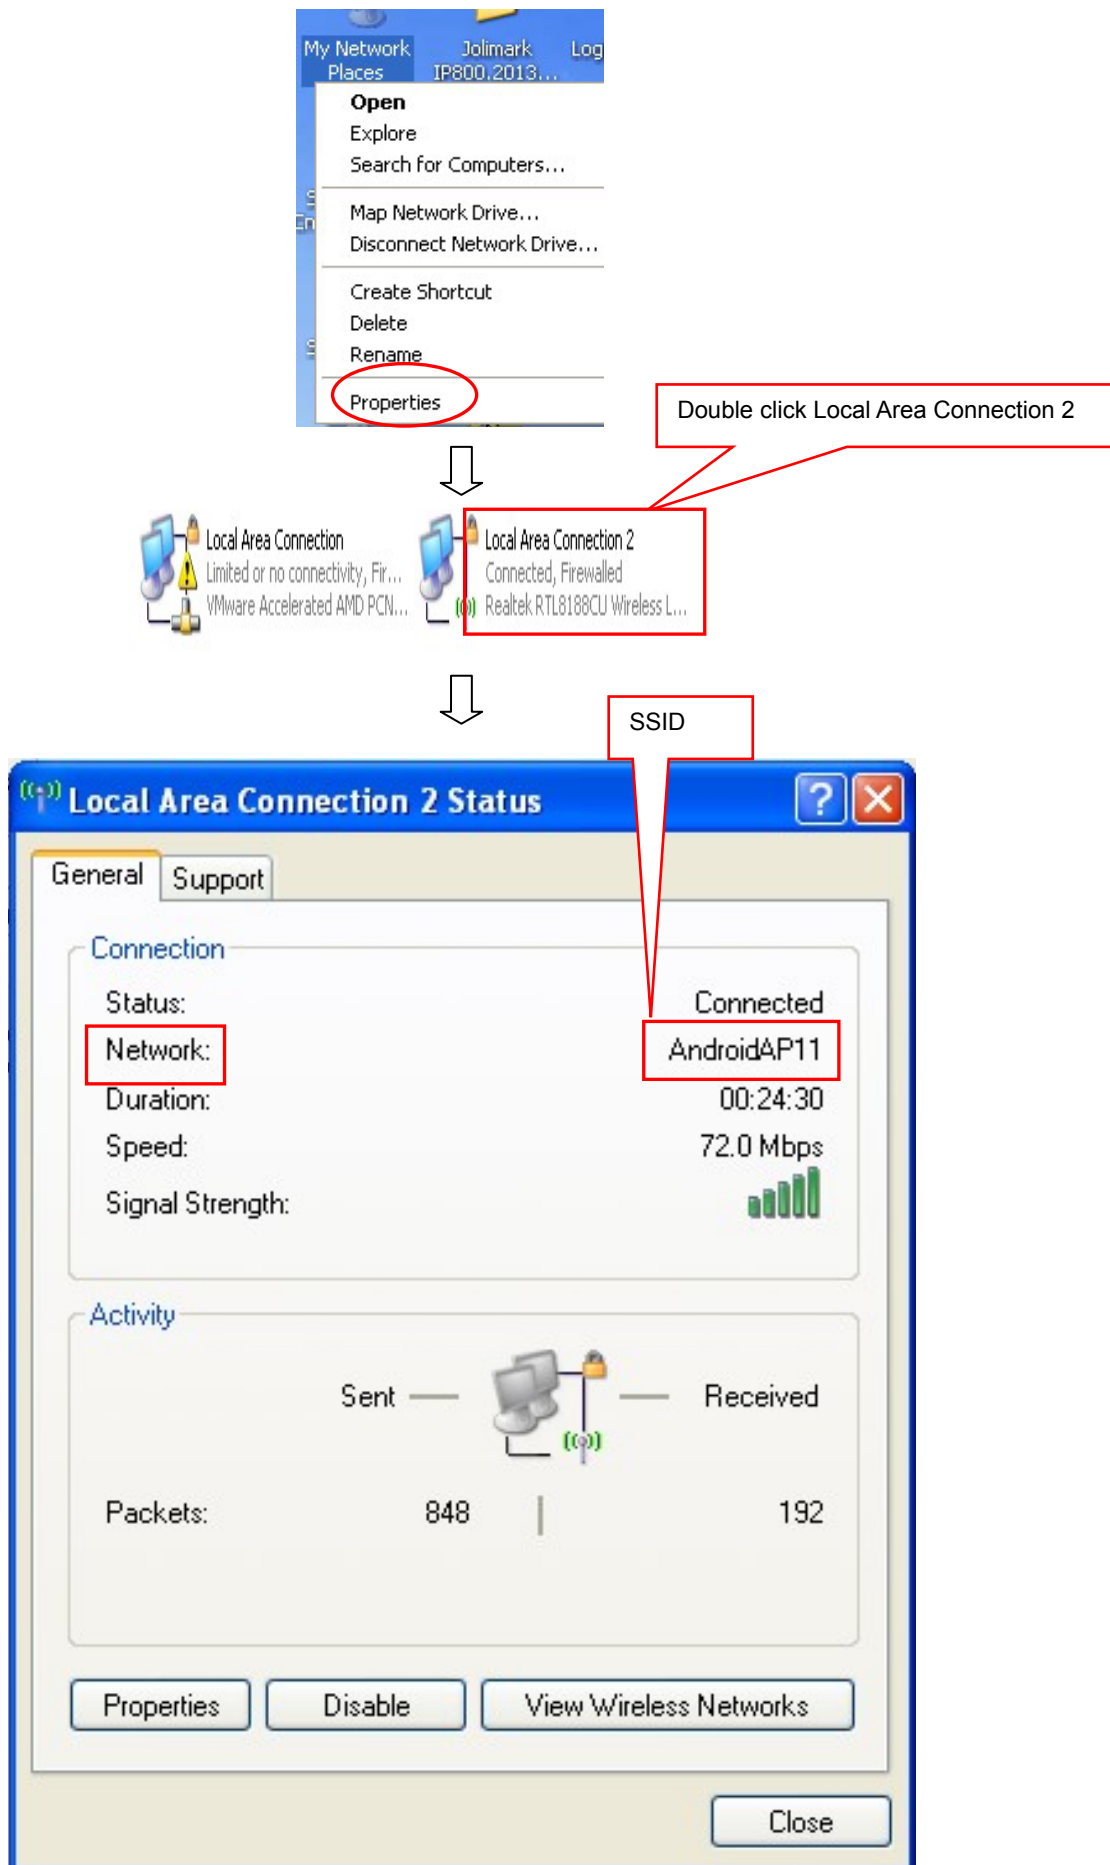

Figure 5
Right click "My Network Places", and then click "Properties" to find the "Local Area Connection 2" you are using. Double click it and the window of "Local Area Connection 2 Status" pops up. You can find the corresponding SSID network name in it. (As shown in figure 5)
- (1) Click "Properties" in the window of "Local Area Connection 2 Status". (Get reference in figure 5)
- (1) Click “Support” in the window of “Local Area Connection 2 Status”. (Get reference in figure 5)